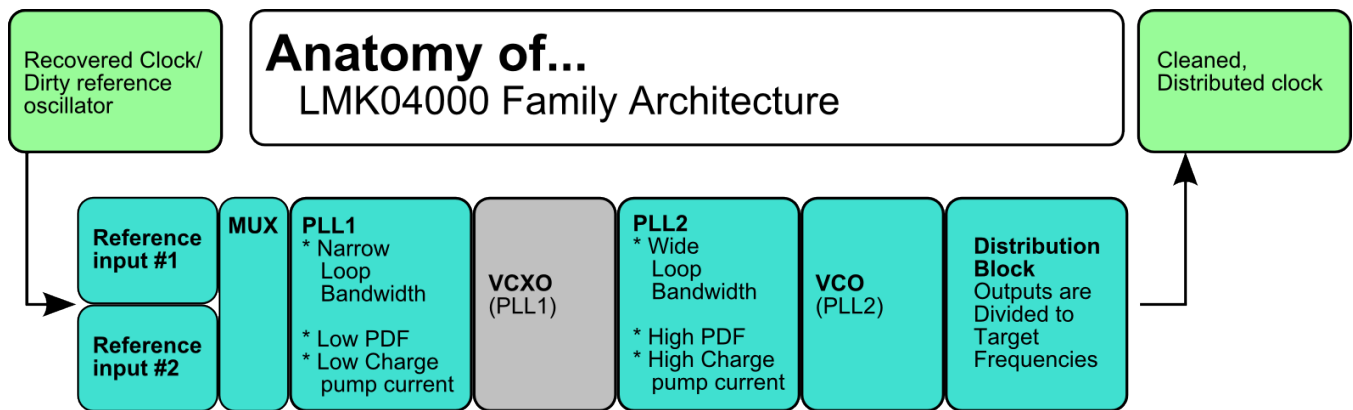
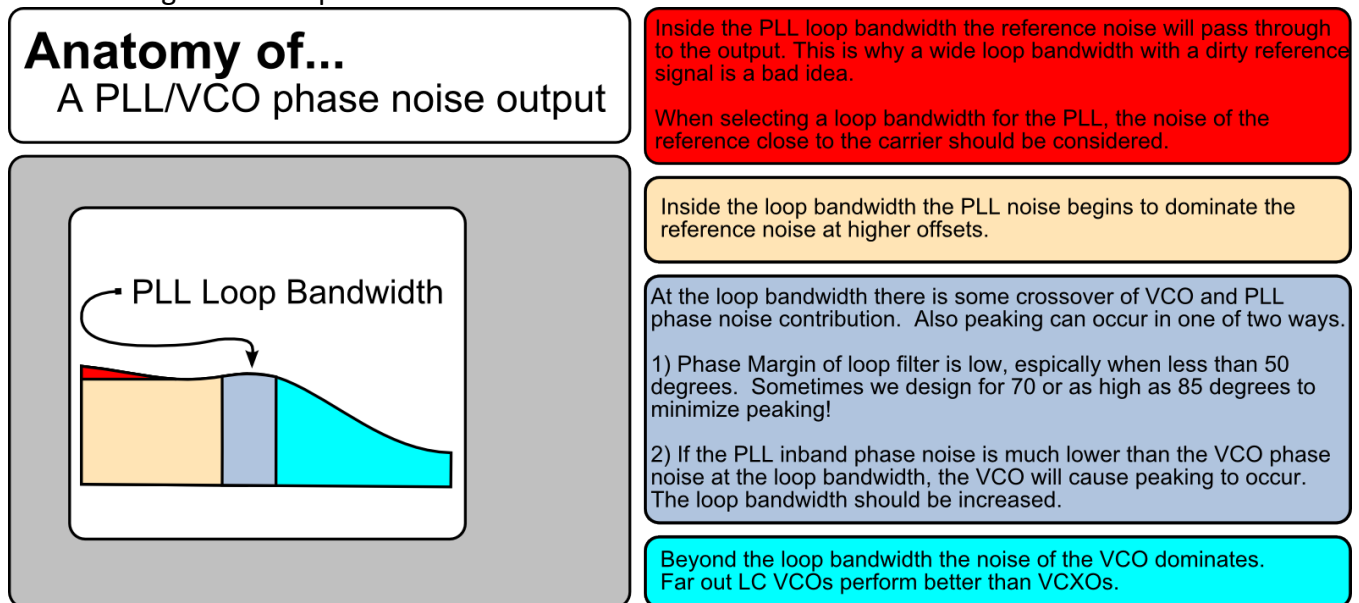
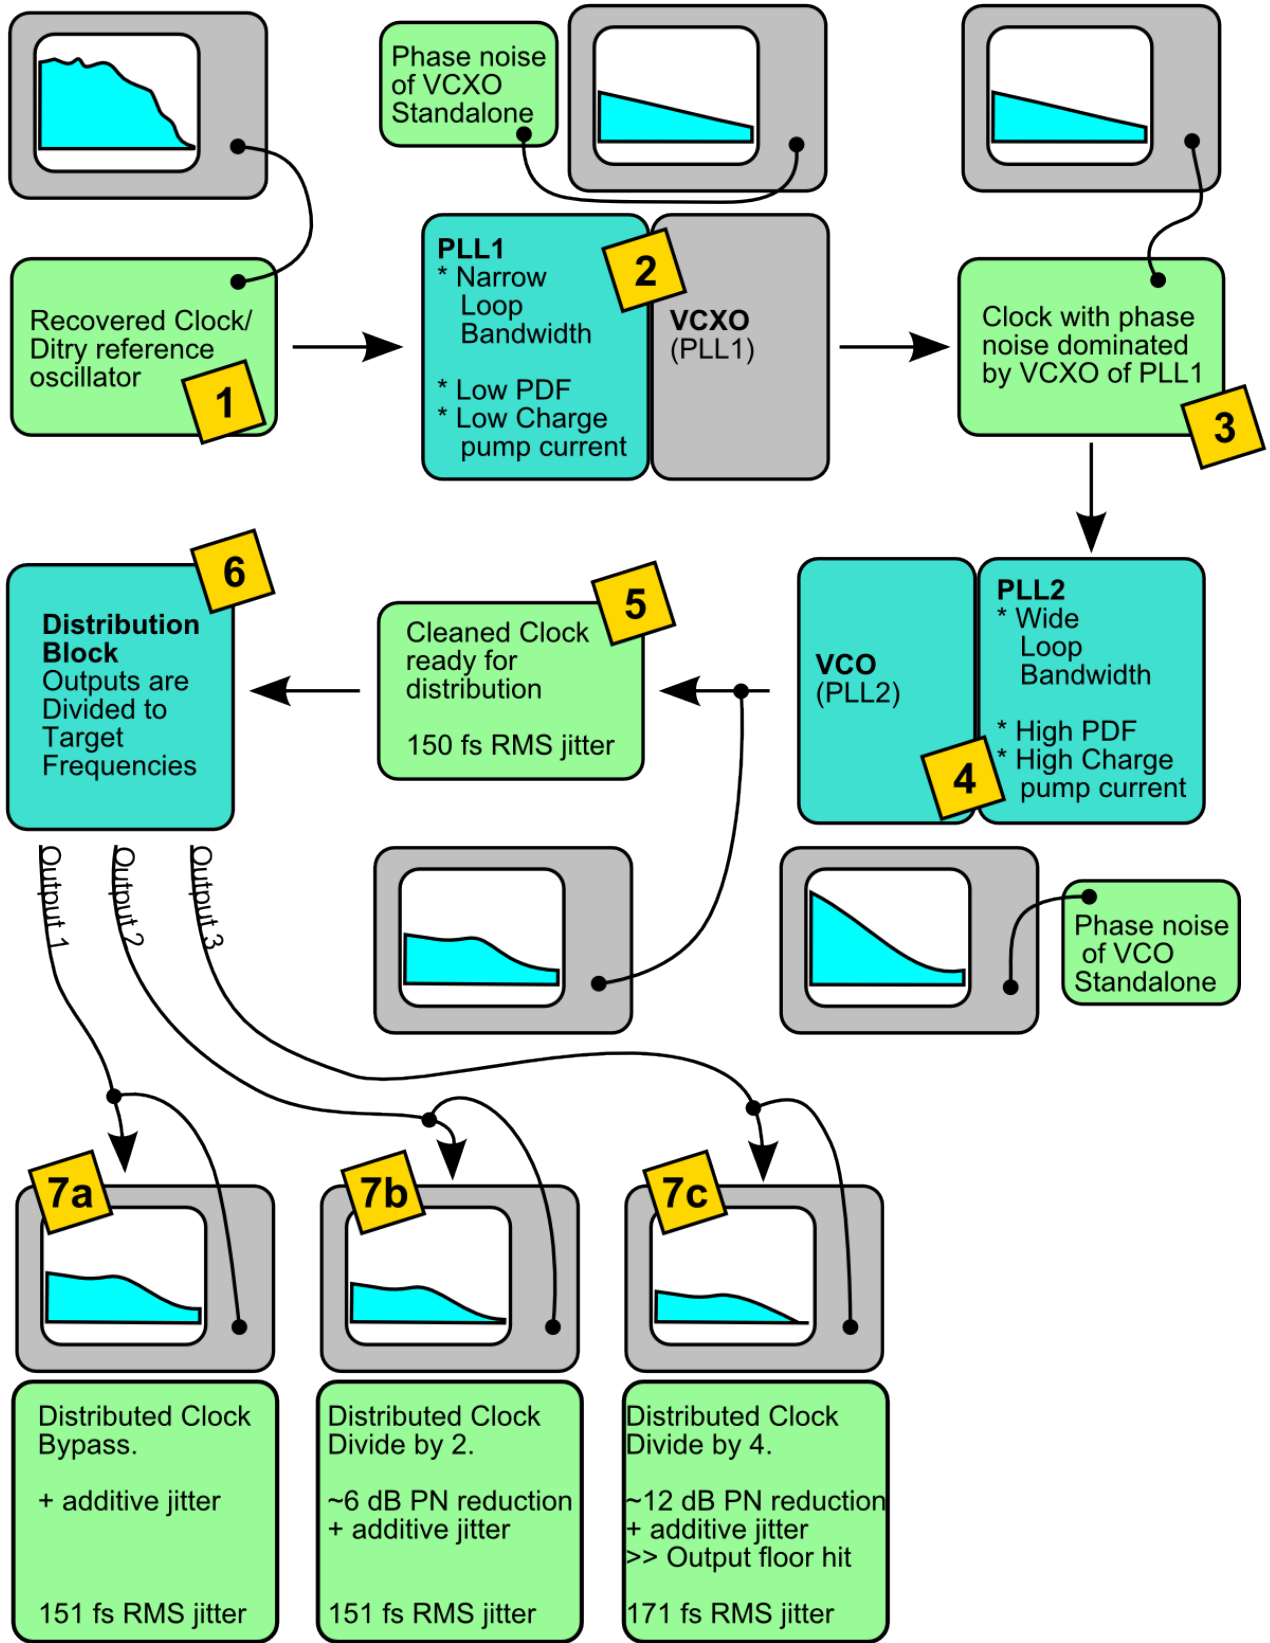

Figure 39: Anatomy of LMK04000
Figure 40: Anatomy of PLL/VCO phase noise output
Figure 41: Dirty Signal Cleaned with a Dual Loop architecture (LMK04000 Family)
In the architecture shown in Figure 39, a signal with poor phase noise performance enters PLL1 and is cleaned with a low frequency/low cost VCXO. This becomes the new reference signal and is applied to PLL2 reference input. PLL2 with the LC VCO performs frequency multiplication of its clean reference. Finally the Distribution Block allows the high frequency LC VCO to be divided into the desired target frequencies resulting in low jitter clocks being distributed to target systems with skew control if needed.
Figure 40 examines what constitutes the output phase noise of any given PLL/VCO. Understanding the architecture in Figure 39 can be applied to understand the finer details of how the LMK04000 achieves its low phase noise even with a dirty reference oscillator. Figure 41 walks through the “life” of the reference signal from input into PLL1 to Distribution.
Refer to Figure 41 as reading through the following steps.
Step 3) Refer to Figure 40. This signal's blue area, the VCO (or VCXO) dominated area goes very close to the carrier.
Step 5) Refer to Figure 40. This signal now looks a bit more like the one shown in the diagram, the low in-band phase noise of the PLL is “cleaning” the high close-in phase noise of the integrated VCO. The PLL is now able to “clean” the VCO without concern of a noisy reference.